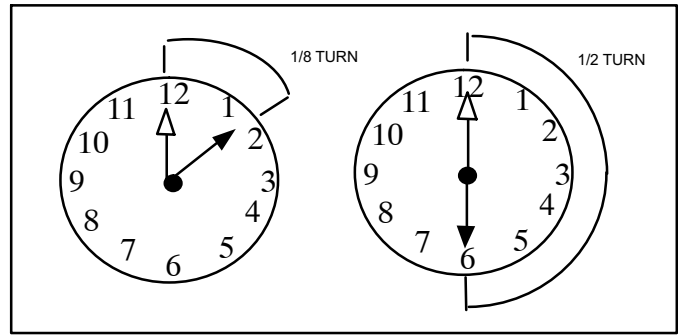

Figure 24. Tightening Distance
sized wrench to turn an additional 1/2 turn clockwise as illustrated in Figure 24, or 20 ft-lb.
5. Attach the liquid line assembly to the CTXV. Finger tighten and use an appropriately sized wrench to turn an additional 1/2 turn clockwise as illustrated in Figure 24, or 20 ft-lb.
8. Connect the equalizer line from the TXV to the equalizer suction port on the suction line. Finger tighten the flare nut plus 1/8 turn (7 ft-lbs) as illustrated in Figure 24.